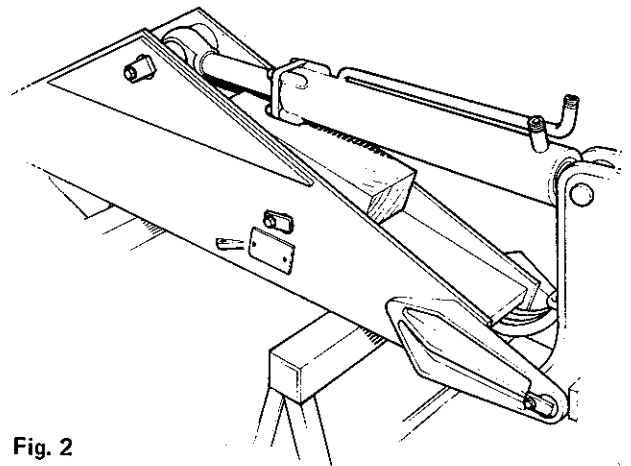

Fig. 2
10. **Boom ram. Support.** (fig 2) Position a suitable block of wood under the cylinder, to take the weight of the ram, when removing the cylinder pin from the slew post location.